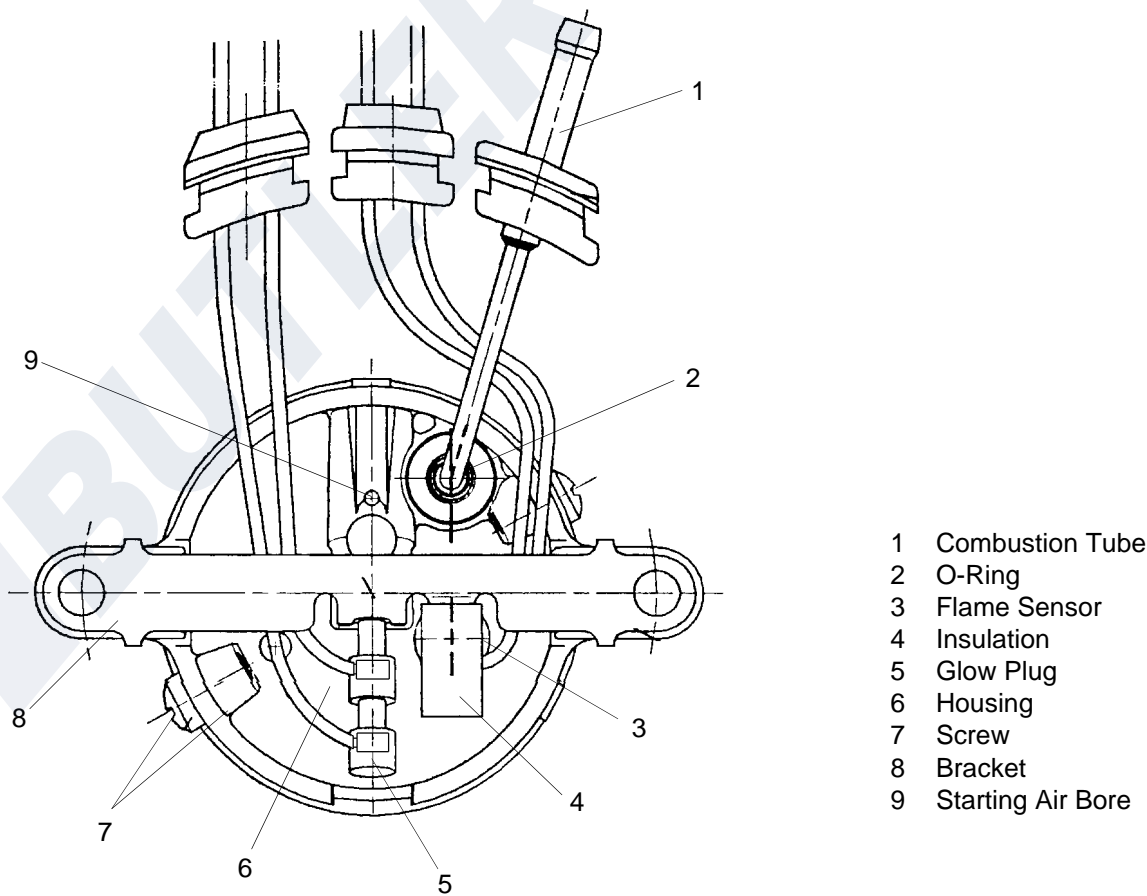

Fig. 503 Visual Inspection, Burner Real Wall
- The cables of glow plug and flame sensor must be routed as shown in Fig. 503.
- The O-ring must have a tight fit around the fuel chamber upper edge (Fig. 503) and must seal completely.
- The insulation (Fig. 503) must be present.